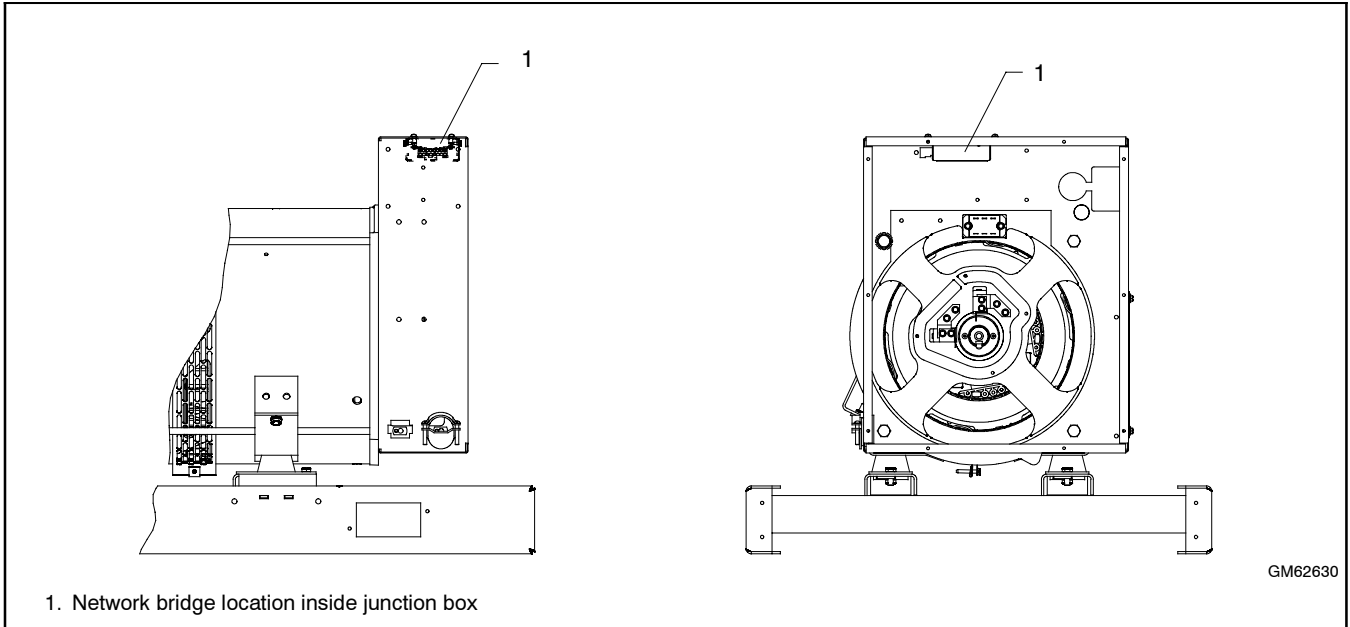

Figure 15 15/30RES/RYG Network Bridge Installation
- a. Remove the junction box panel to gain access to the inside of the junction box. See Figure 15.